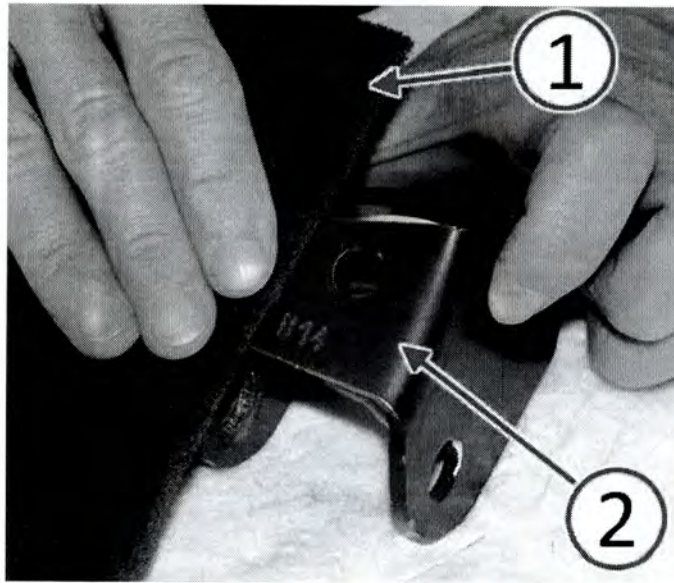

Fig. 6 Scuff Top Surface Of Shock Absorber Bracket With Abrasive Pad
11. Using an abrasive pad (1), scuff the top surface (2) of the shock absorber bracket to improve adhesive bond (Fig. 6).